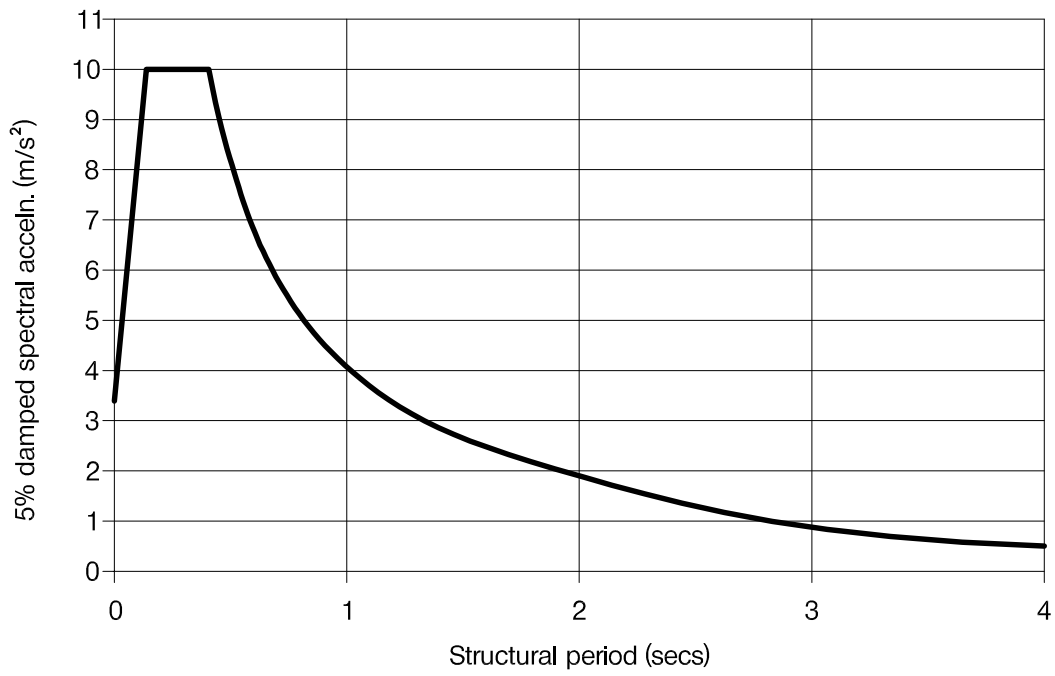

FIGURE 2 : 475 year return period motions for rock outcrop at site
FIGURES 2 and 3
11. Figs 2 and 3 show the design 5% damped seismic response spectrum for the region. It applies to level ground for a 475yr return period assuming the ground surface is rock with shear wave velocity of not less than 800m/s.